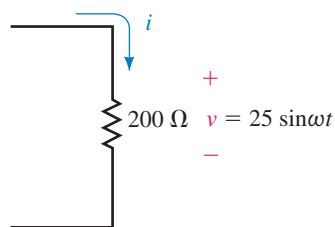

FIGURE 18-76
1. For the resistor shown in Figure 18-76: